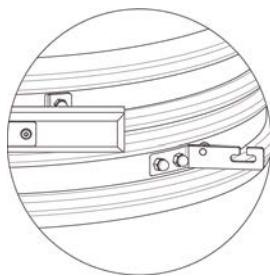

Figure 8
**STEP 9B** Attach the side shelves by placing the front pins in the slots of the shelf brackets that are installed on the grill. (See Figure 8) (Optional cart and side shelves purchased – if no cart and side shelves you are finished.)